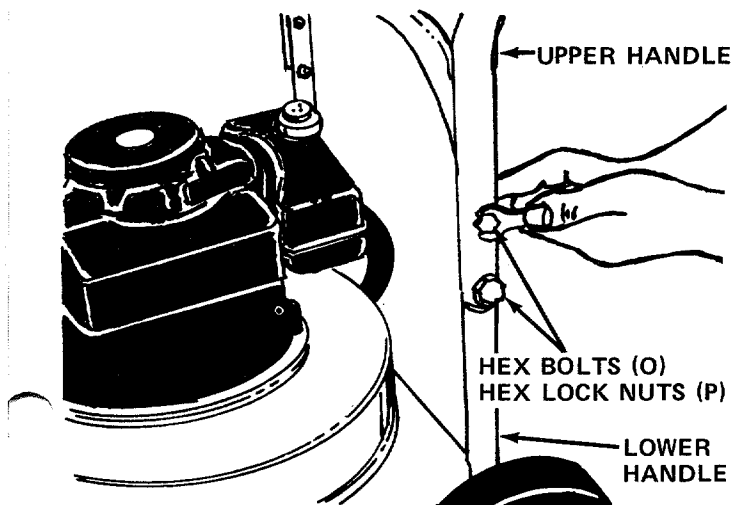

FIGURE 6
- Place the upper handle (C) in position over lower handle. Fasten with four hex bolts (O) and hex lock nuts (P) provided. See figure 6. Two 7/16" wrenches are required.